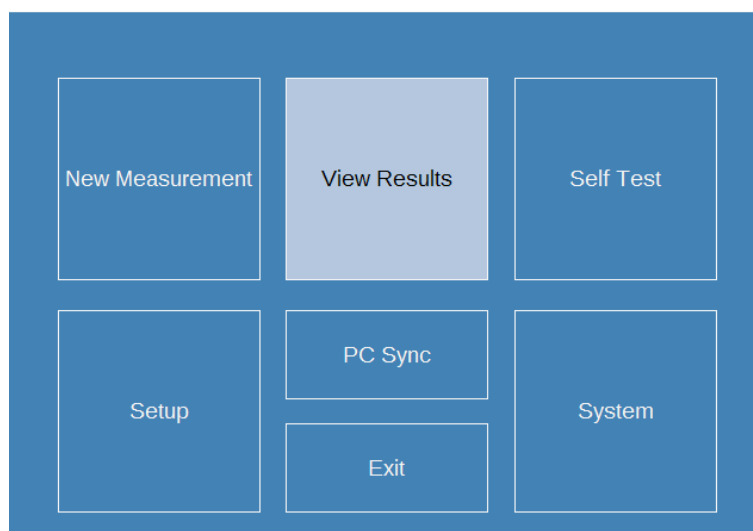

Figure 7-37: Main Menu
From the Main Menu screen, press **View Results** to examine the options for retrieving records as shown in Figure 7-37.
- Press **Home** to return to the Main Menu screen as shown in Figure 7-37.